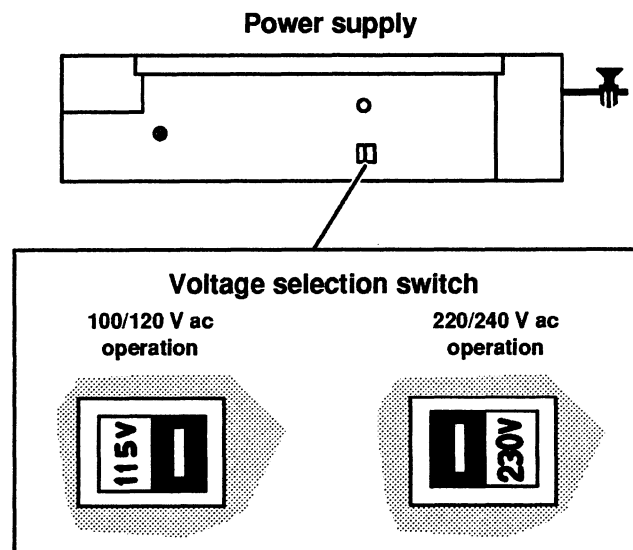

Figure 6–6 Setting the Voltage Selection Switch
2. Set the voltage selection switch on the power supply to the ac power voltage for your site as shown in Figure 6–6. If your installation site has 100 or 120 V ac power, set the voltage selection switch to 115 V; if it has 220 or 240 V ac power, set the switch to 230 V.